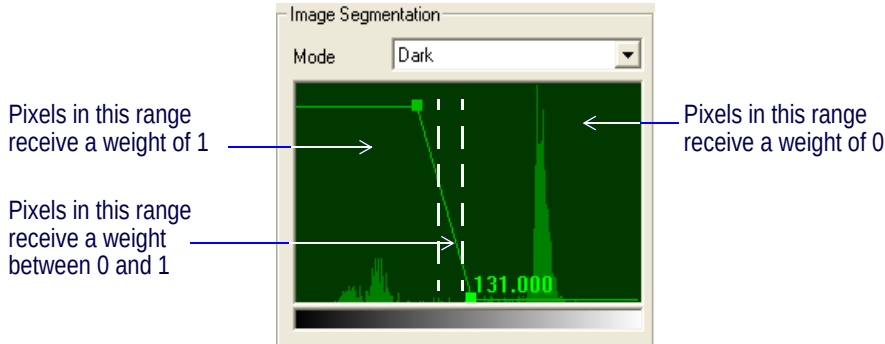

Figure 103 Image Segmentation Function Editor
3. Use the mouse to drag the handles in the graphic function editor. Set the Image Segmentation weight function as illustrated in Figure 103.